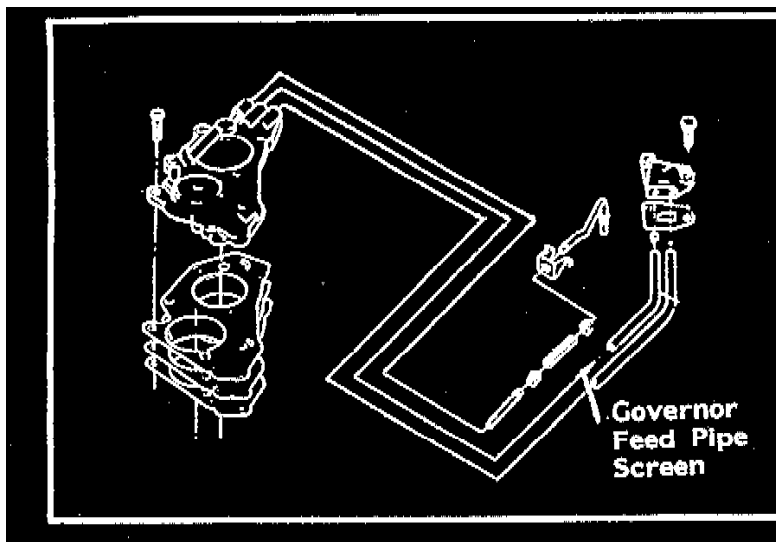

Figure 1
3. Plugged governor feed pipe screen (See Figure 1)
Put a couple drops of ATF into the switch, and tighten it snugly into the air blower. Apply pressure and check for air bubbles. (Figure 1)